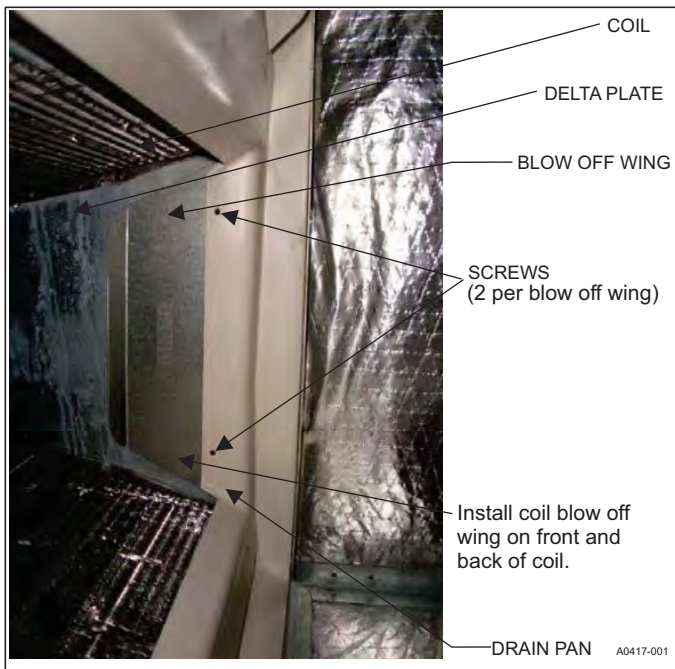

FIGURE 6: Coil Blow Off Wing Installation
- For horizontal right applications, the front and back coil blow off wings must be installed (blow off wings are shipped with the unit). Locate 4 screws securing coil delta plates to coil drain pan. Loosen the screws. Slide each coil blow off wing between the drain pan and the coil delta plate. Tighten screws to secure coil blow off wings. Refer to Figure 6.